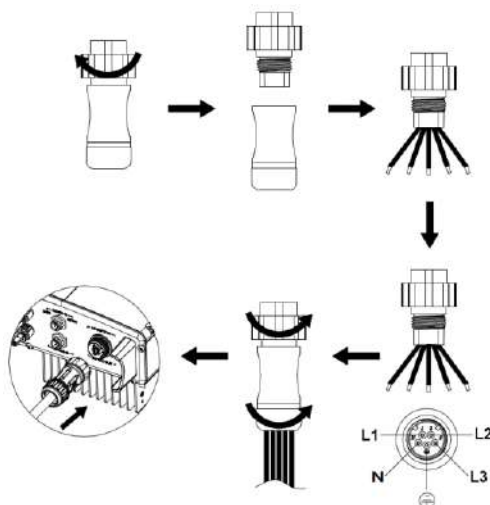

Figure 4.15 Wiring of AC connector
- (1) Before connect the three-phase AC grid cable to the inverter, take lightning and short circuit protection measures in accordance with the local electrical safety codes
- (2) As shown in Figure 4.15, connect and fasten L1, L2, L3, N and PE conductors of the three-phase grid to AC terminal with 0.5 Nm torque. Tighten the terminal with tightening torque of 2.5-3 Nm, and then connect the terminal to the AC port of the inverter.